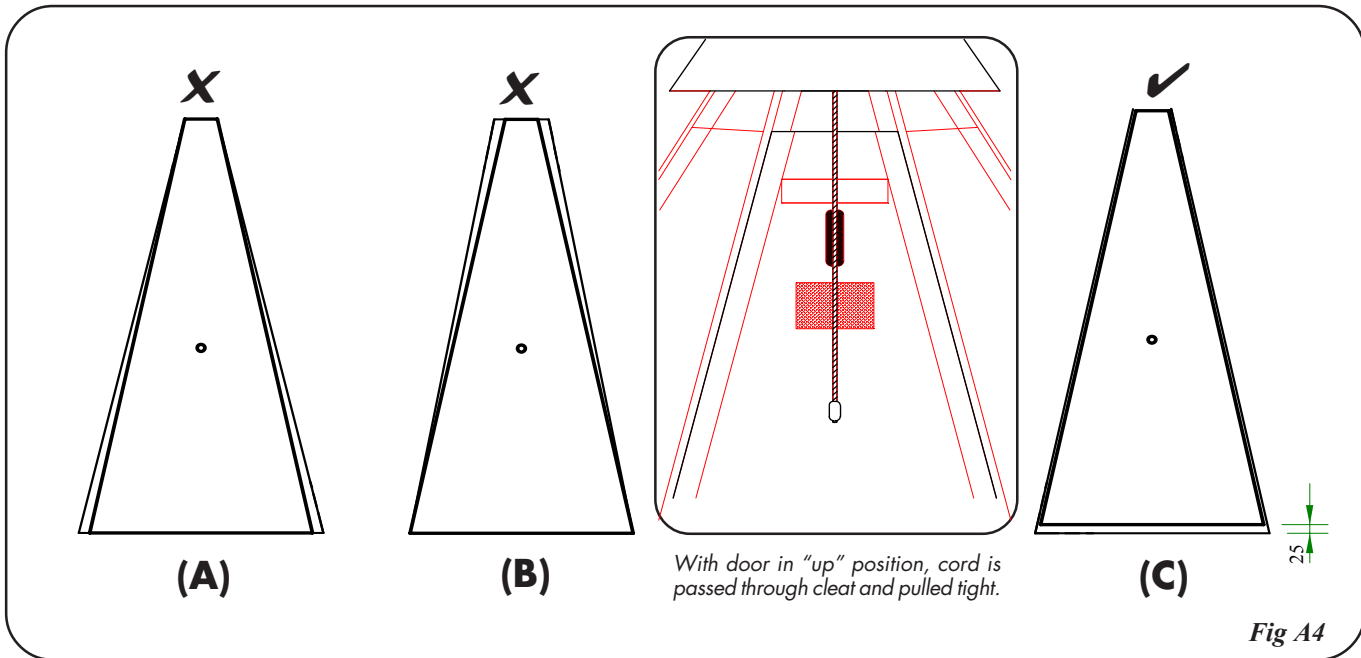

Fig A4
2. Refer to **Fig A4** and check the door frame for correct fit. Place the door panel into the frame, and raise it a few mm. If it fits too tightly in the frame you can correct this by adjusting the width at the bottom. Slacken off the alloy nuts at bottom left and right and pull the hoop bar away from the upright bar to create a gap of a millimetre or two. The object is to find an adjustment by trial and error that results in the panel fitting securely into the frame from top to bottom. When this is achieved, retighten the alloy nuts fully.
3. Once the door fits correctly, raise and lock it fully into the frame and cleat it up as shown in **Fig A4** (inset). Check that the panel has locked correctly by tugging it towards you by the finger-hole.